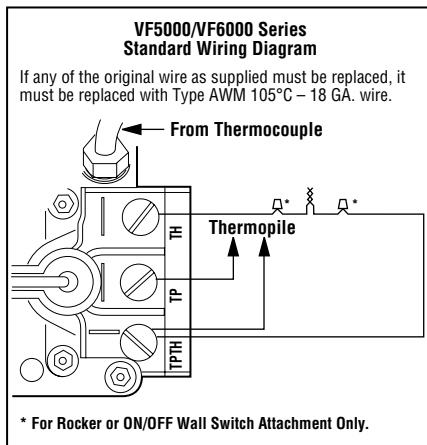
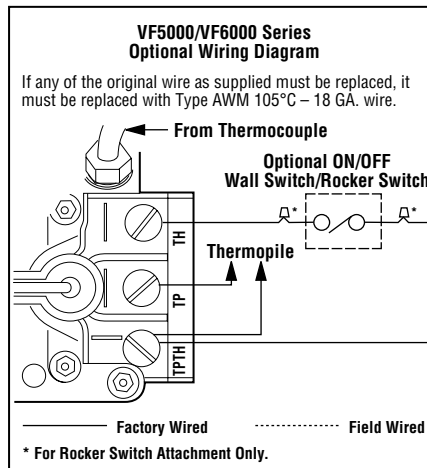

Figure 13
Figure 14
**Step 6. Installing the Optional Remote Wall Switch** – The standard millivolt system comes from the factory wired as shown in Figure 13. Select a convenient location for the remote wall switch and connect the wiring to the appliance (Figure 14).
An optional wall switch kit can be installed along with all vent-free appliances. The kit consists of a standard UL wall switch with cover plate. This kit provides for remote (wall) operation of the appliance. Replace the wall switch and cover plate of this kit with the components of the FWSK and you can have true remote control of your vent-free appliance, turning it on and off from your favorite easy chair. The wall switch kit should be installed along with the appliance. Refer to *Figure 14* and Step 6 for detailed installation instructions.